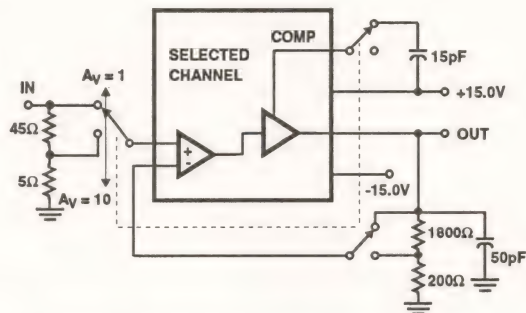

FIGURE 11. SLEW RATE AND TRANSIENT RESPONSE
- See Figure 11 for test circuit.